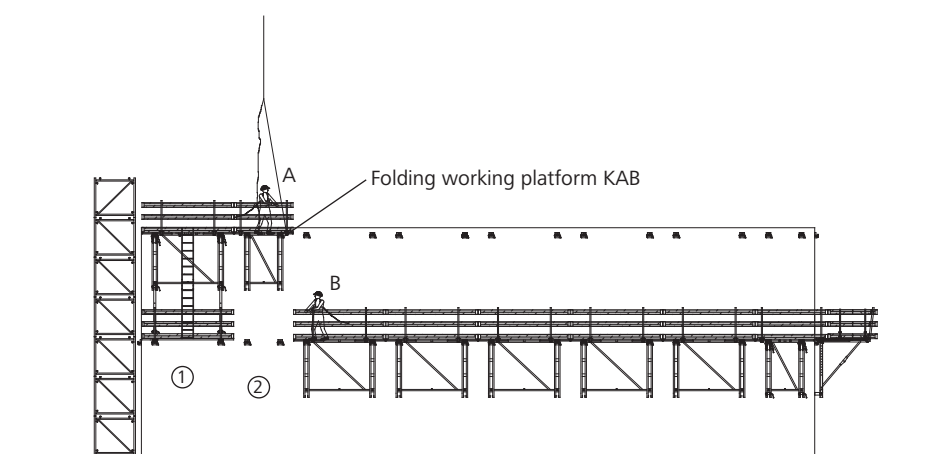

Fig. 30.2
10. After locking the suspension shoe KAB, Person A removes the crane rope from the platform KAB (Fig. 30.2).